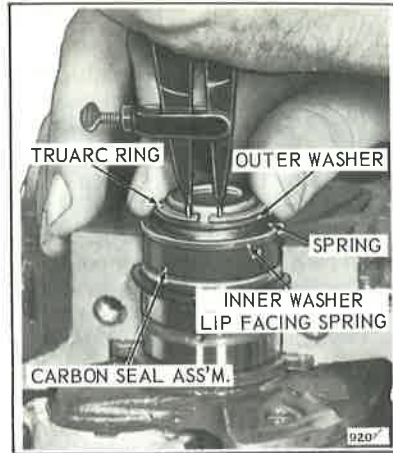

Figure 5-9. Removing Carbon Seal
g. Remove carbon seal from lower end of crankshaft by removing retaining ring with Truarc No. 2 pliers (Special Tool #303858), then removing other components of seal assembly. See Figure 5-9.